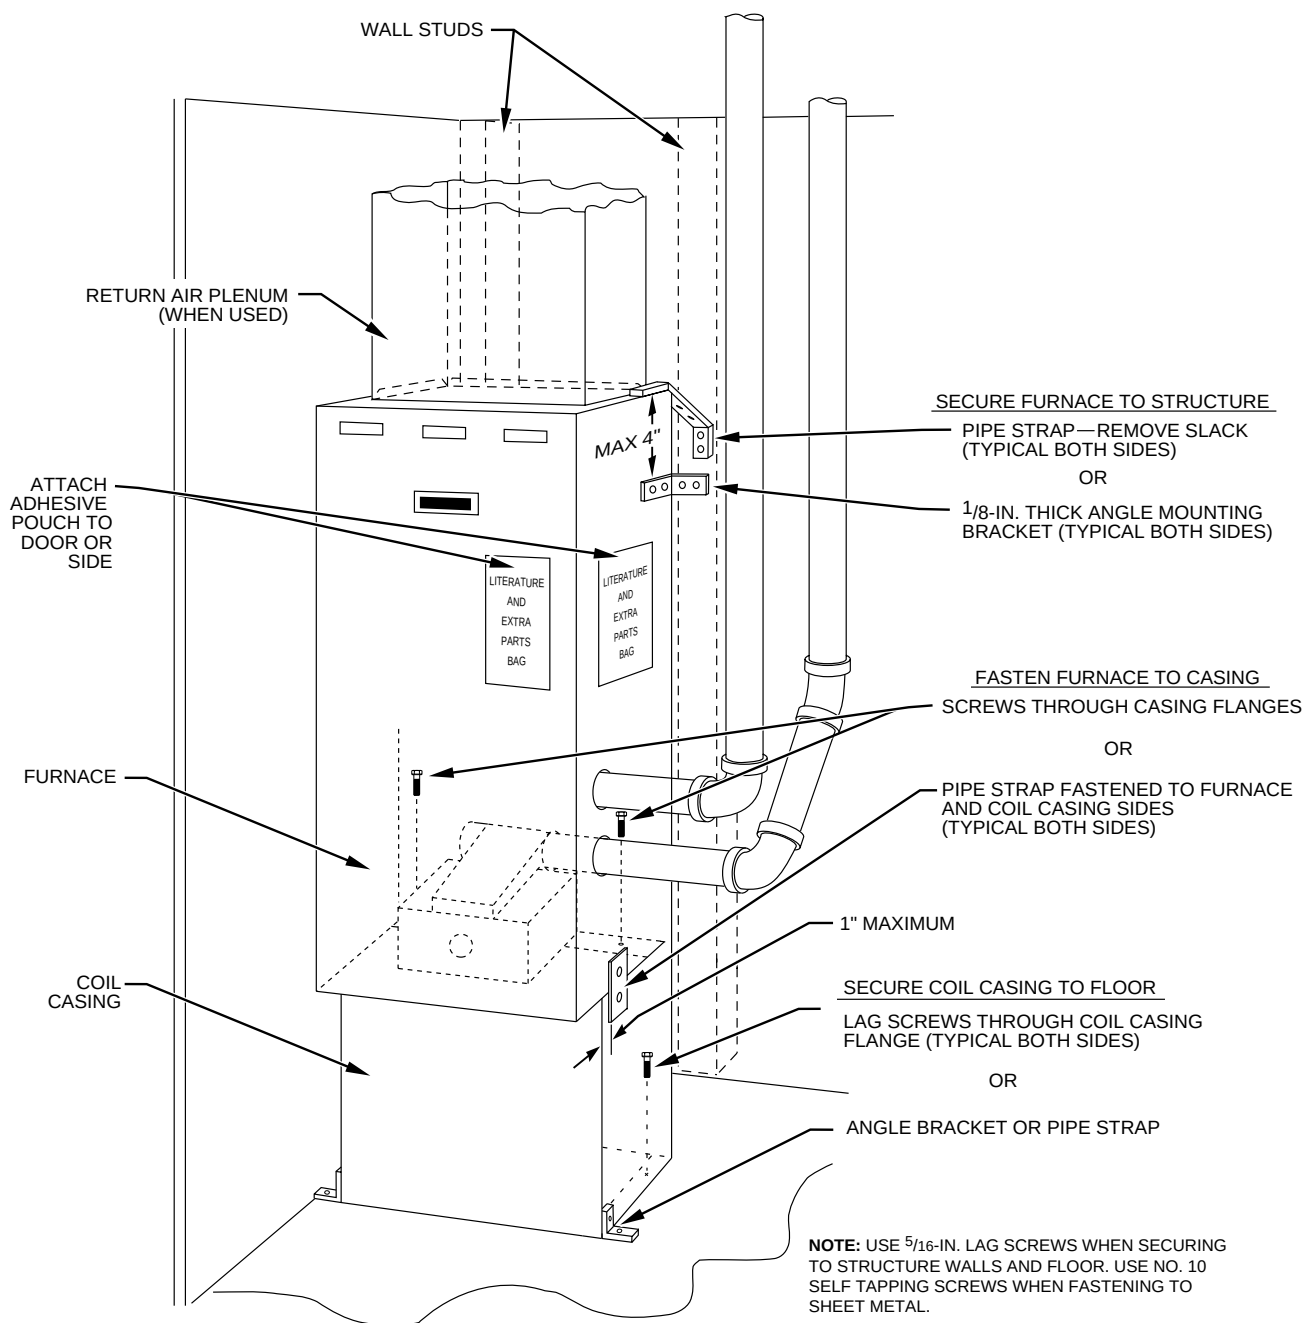

Fig. 1—Securing Furnace to Structure
Attach adhesive pouch containing literature packet and gas conversion parts to outside of main furnace door or accessible side of furnace for use at a later date. (See Fig. 1.)
RECOMMENDED METHODS OF SECURING FOR TYPICAL INSTALLATION. (SEE FIG. 1.) ALL MOUNTING HARDWARE IS FIELD SUPPLIED.
4. Attach adhesive pouch containing gas orifices and Installation Instructions to front of main furnace door or accessible furnace side. (See Fig. 1 or 6.) Pouch must not cover or block vents on door.